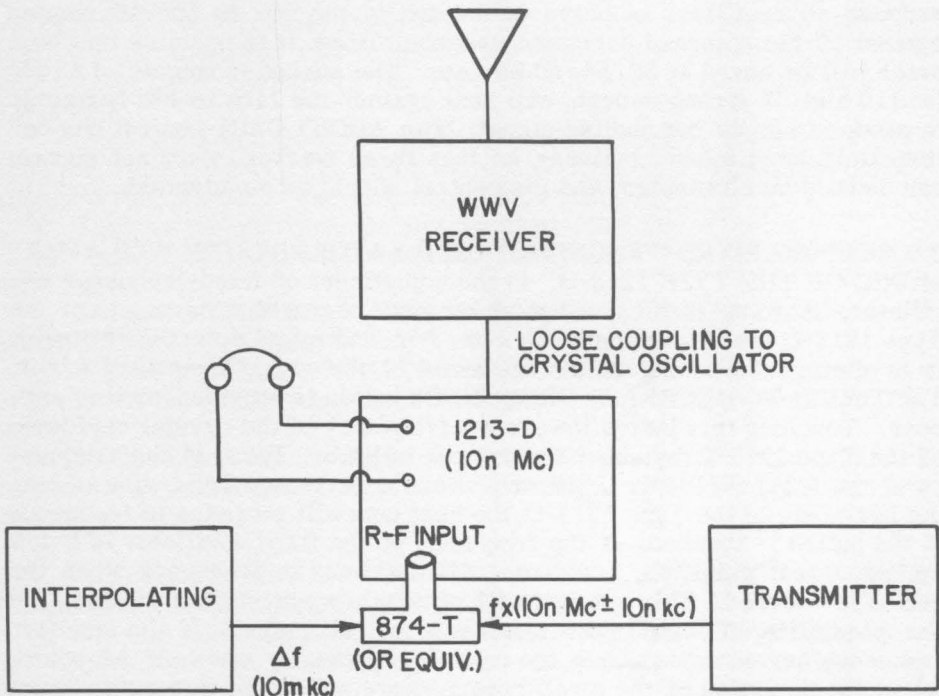

Figure 4. Interpolation Method of Calibration.
3.7 INTERPOLATION METHOD OF CALIBRATION. The 10-kc harmonic series generated by the Type 1213-D permits direct calibration at 10-kc intervals up to 10 Mc. However, with an interpolation oscillator connected as shown in Figure 4, it is possible to calibrate at any multiple of 10 kc up to 1000 Mc. Thus, any broadcast transmitter, for instance, can be standardized directly against WWV on any assigned channel up to 1000 Mc. An oscillator with a frequency range of 10 kc to 5 Mc, with an output of about 1 volt, will interpolate between successive harmonics of the 10-Mc series up to 1000 Mc. The Type 1330-A Bridge Oscillator or the Type 1001-A Standard Signal Generator are recommended. Below 500 Mc an oscillator with a frequency range of 10 kc to 500 kc (such as the Type 1210-C Unit R-C Oscillator) will interpolate between successive harmonics of the 1-Mc series.